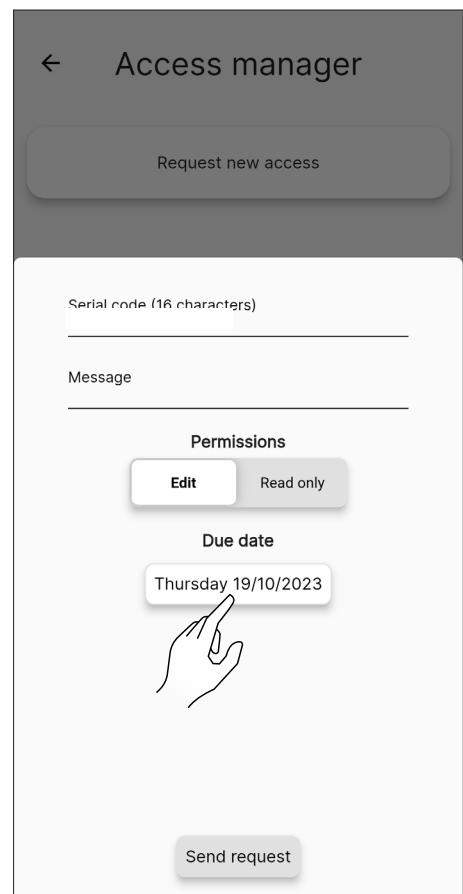

Fig. 8.31
- select “Due date” to decide for how much time you wish to control the stove (Fig. 8.31)